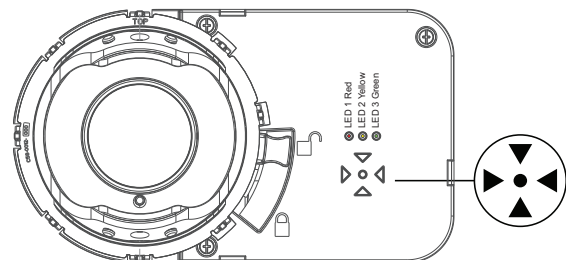
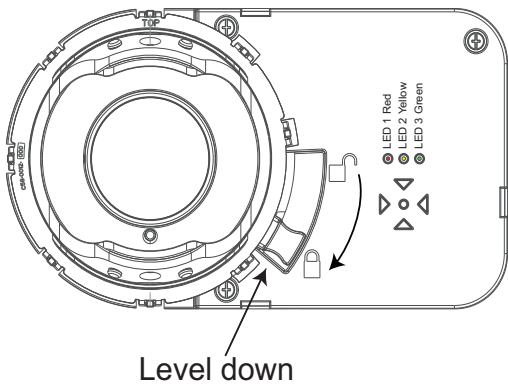

Figure 2-19: Arrow Array
Figure 2-21: Locking and Securing the Eyeball
* Refer to Figure 2-19 and Figure 2-21 for LEDs 1, 2 and 3.